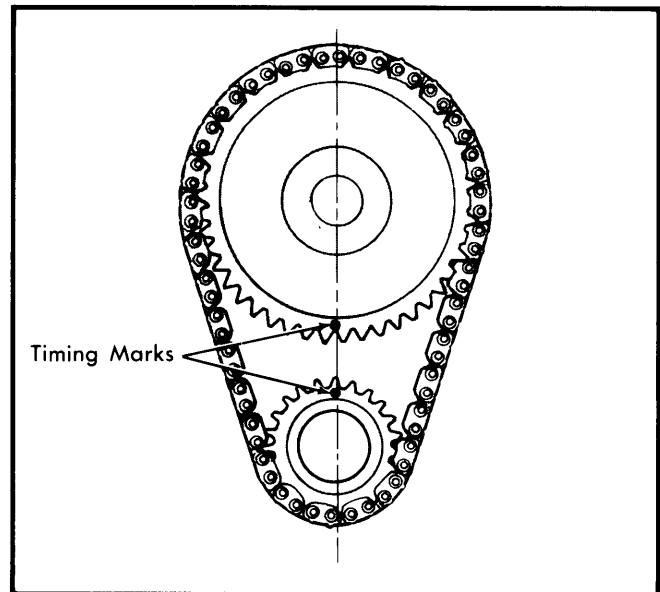

Fig. 14 Timing Chain Sprocket Alignment Marks
3) Slide both sprockets evenly over their respective shafts (with new chain installed on sprockets). Use a straightedge to measure alignment of timing marks. Install fuel pump eccentric, cup washer and camshaft bolt. Tighten bolt and check camshaft end thrust. Slide crankshaft oil slinger over shaft and up against sprocket (flange away from sprocket). Install front cover. See Fig. 14.